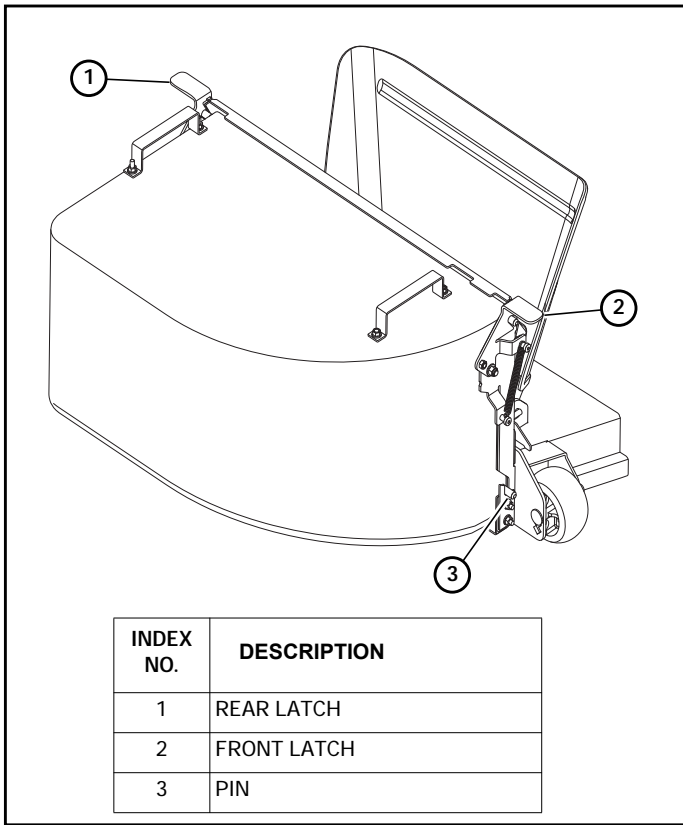

Figure 3-2
2. Secure the bag assembly to the frame assembly by placing the pins in the slots and closing the latches. Figure 3-2